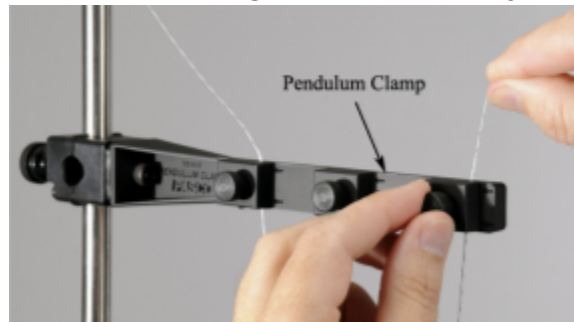

Figure 1: Pull the string between the inner and outer clips of the ramp
1. Run the string through the hole in the brass cylinder and put the ends of the string on the inner and outer clips of the clamp (**Figure 1**), so the string forms a 'V' shape as it hangs.